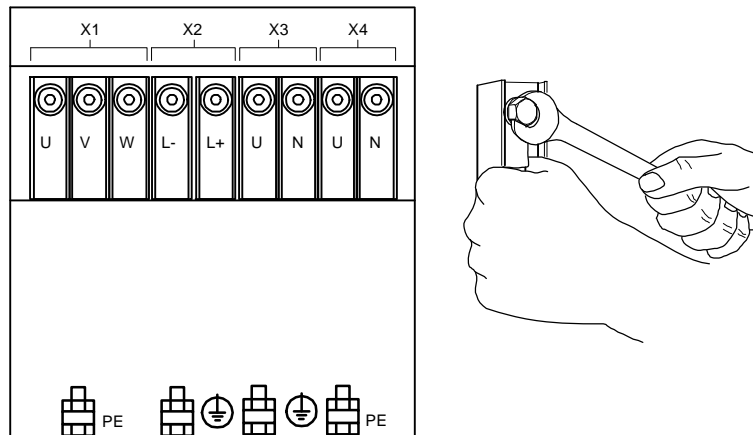

Figure 14 Connection panel of the Protect 5. 31/10-60 kVA
In order to avoid deformation of the supporting rail and to protect the base of the connection terminal against torsional forces, it is advisable to hold the cable in position when tightening the clamping screw (refer to Figure 14/15).
- Secure the cables to the respective copper rails by securing the cable lugs (refer to Figure 14 and 15) using a spanner.
- **Secure the protective earth conductors (PE)** to the designated unit frames.